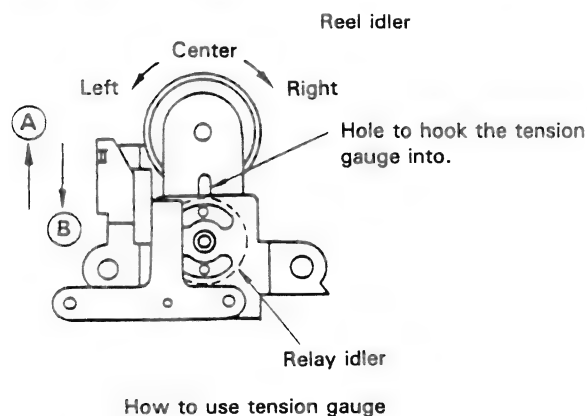

Figure 1-10.
2. Place the reel idler in its center position as shown in Fig. 1-10.
3. Using a tension gauge, push the reel idler in the direction of arrow → (A), so that the reel idler moves away from the relay idler.
4. Release the pressure gradually in the direction of arrow → (B), so that the reel idler touches the relay idler again. Check that the reading of the tension gauge is within 105 to 145 g.cm.